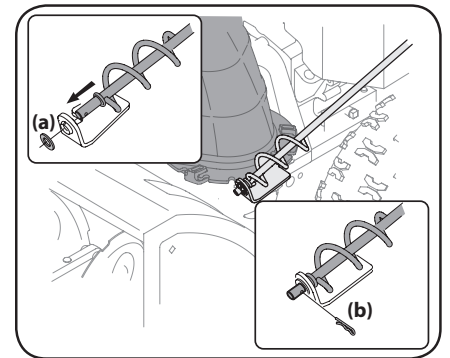

Figure 2-11
1. Remove plastic cap (if present), flat washer (a) and hairpin clip (b) from end of chute directional control assembly. See Figure 2-11.